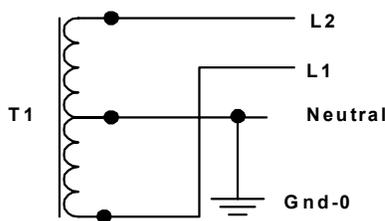

Figure 1
There are several general topologies used to supply small to medium sized facilities with electrical energy. Power companies use transformer connections to reduce their high transmission voltages to meet the customer's low voltage (less than 600 volts) system requirements. These voltages (transformer secondary levels) are illustrated in Figures 1, 2, 3, and 4. These step-down transformer banks are typically located on power poles near the facilities or mounted on concrete pads located outside the customer's facility. It is important to recognize from Figures 1, 2, 3, 4 that these transformer configurations ground the facility's supply neutral line to earth, illustrated as Gnd-0.
Figure 1 shows a typical transformer secondary connection for the popular single-phase 240/120-voltage distribution system. In this transformer topology, the secondary is a center-tapped connection with 240 volts developed between lines L1-L2 and two 120-volt supplies developed between L1-neutral and L2-neutral. The center tap is neutral, (often referred to as "the return line") and is earth grounded at this point. Loads that require a 240-volt supply are connected between L1-L2 with no neutral connection, consequently, no neutral current flows in these 240-volt loads. All 120-volt loads are connected either between L1-neutral or between L2-neutral. The neutral current flowing toward the supply Gnd-0 point at any instant in time is the vector sum/difference of all the neutral currents in all the individual 120-volt loads on both L1 and L2. In theory, it is possible to have identical 120-volt loads on L1 and L2 such that the neutral current flowing toward Gnd-0 is zero. However, in practice, this is never realized and there is always some current flowing in the neutral wire toward Gnd-0 at the supply transformers.
- The popular 240-120 single-phase supply system shown in Figure 1 will have neutral current flowing
All neutral (return) currents for all the loads throughout the total facility are vector summed at point (a) in the main distribution circuit breaker panel. The balance of this neutral current sum must then return to the utility company’s supply transformer neutral, shown as Gnd-0 in Figures 1,2, 3, and 4. The return path for this net neutral current is the neutral wire installed by utility companies and/or electrical contractors.